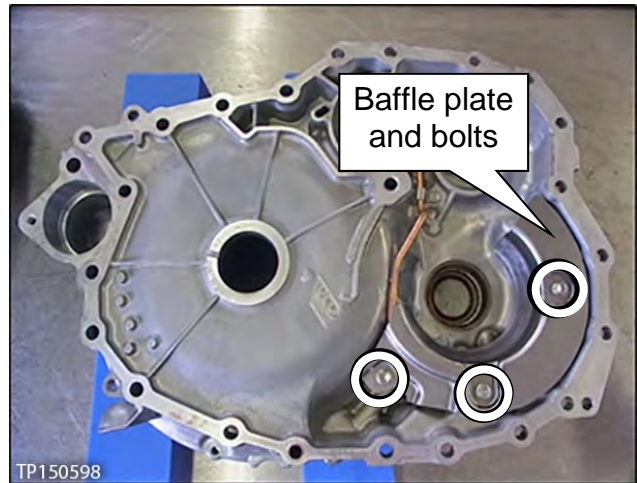

Figure 123
a. Remove the three (3) bolts, and then remove the baffle plate from the converter housing (Figure 123).